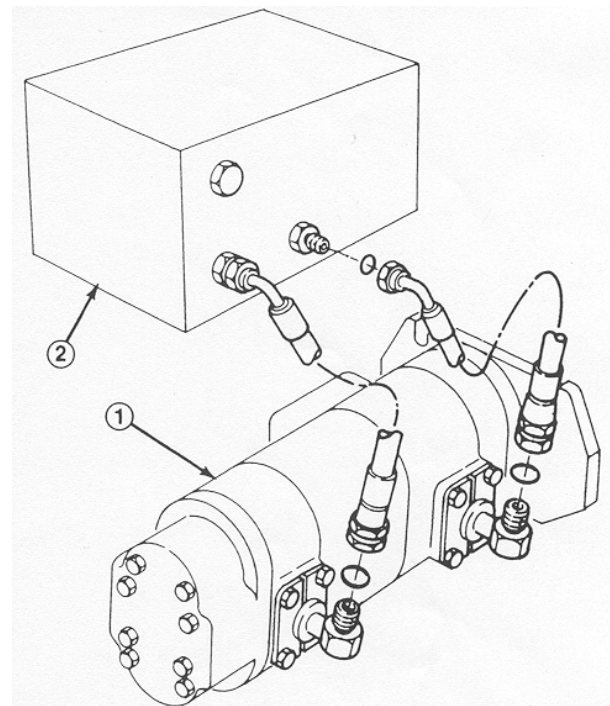

Figure 3
2. Disconnect the hoses from the fittings on the right front and the rear of the pump (Fig. 3). Also, disconnect the right front hose, which is not needed, from the straight fitting on the PTO manifold (Fig. 3).